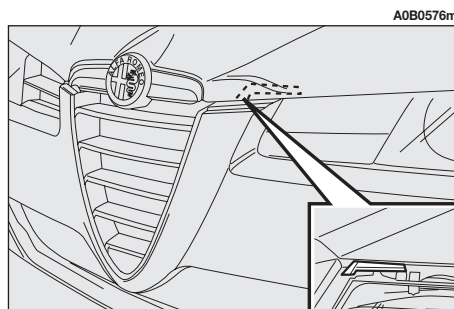

fig. 161
- Press the safety lever (**fig. 161**) upwards.